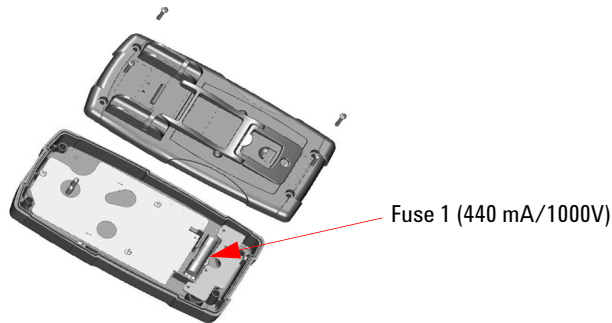

Figure 4-10 Fuse 1 replacement
- 3 Gently remove the defective Fuse 1 by prying one end of the fuse and removing it out of the fuse bracket, see Figure 4-10.